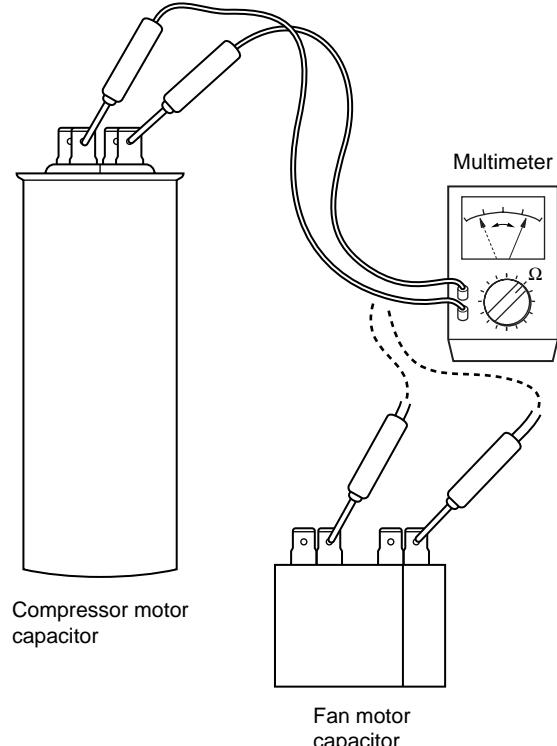

Fig. 18
⑤ Motor capacitor Both in indoor and outdoor unit
- Remove the lead wires from the capacitor terminals, and then place a probe on the capacitor terminals as shown in **Fig. 18**. Observe the deflection of the pointer, setting the resistance measuring range of the multimeter to the maximum value.